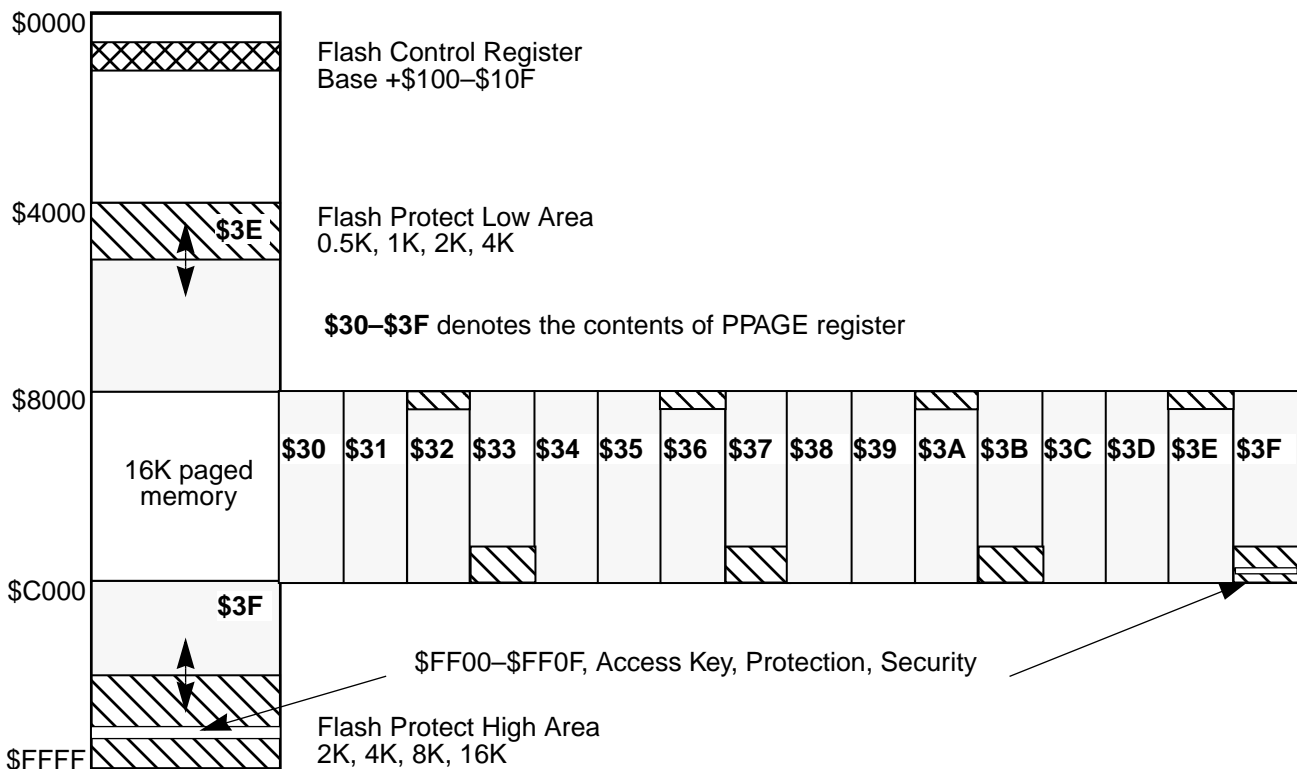

Figure 17 Flash Data Memory Map
1. Write to bits BKSEL[1:0] in the FCNFG register to select the bank of registers associated with the 64K flash block to be programmed or erased (i.e. Flash 0, 1, 2 or 3) See Figure 17 for further details.